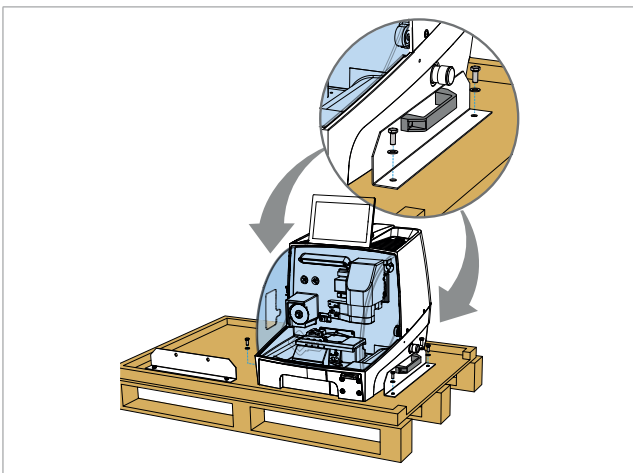

Fig. 14
- 5) Remove the screws attaching the machine-locking side brackets to the pallet (Fig. 14).